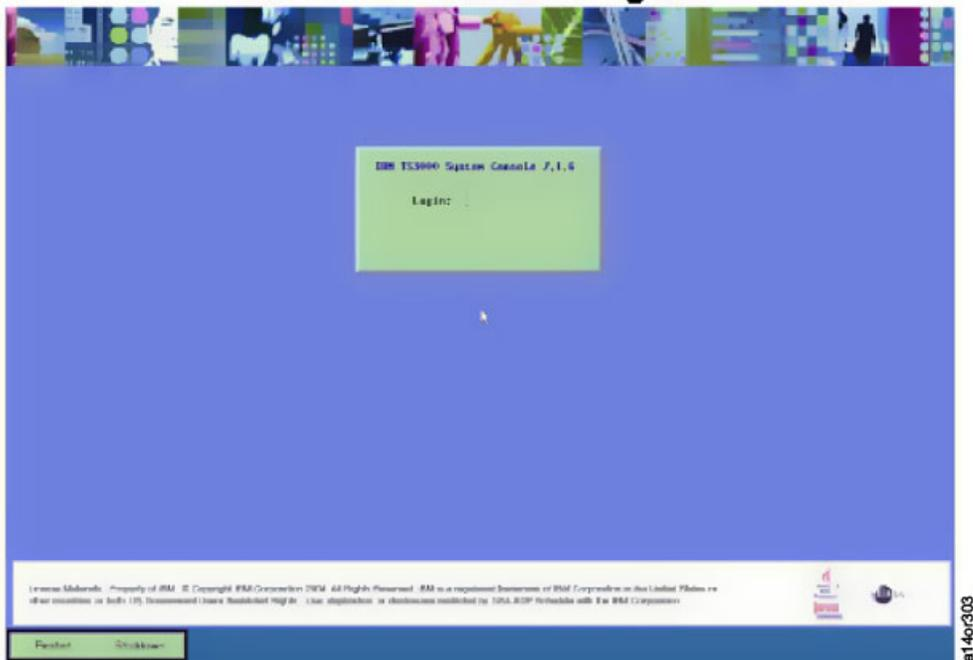

Figure 1. System Console Login screens
1. Go to the System Console Login screen and determine the system console code level. See Figure 1 on page 2.